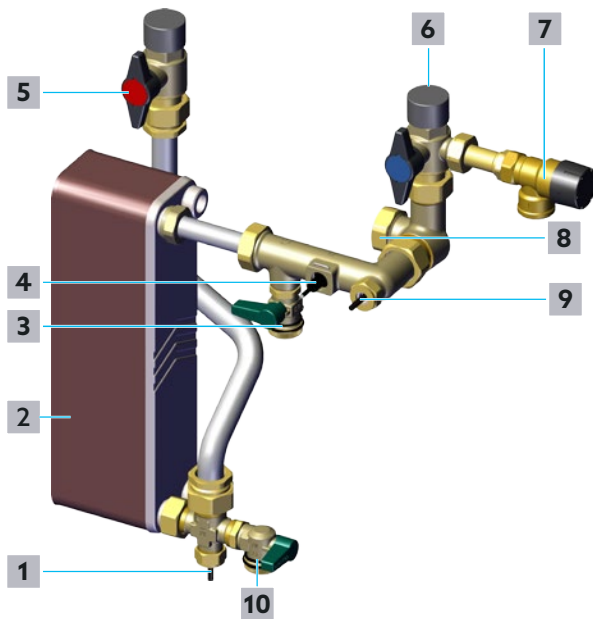

Fig. 19: Filling and venting of the potable water circuit
- 1 Slowly open the shutoff ball valve for potable water (hot) (position 5 in Fig. 19 on page 26 and position 10 in Fig. 2 on page 12).
- 2 Slowly open the shutoff ball valve for potable water (cold) (position 6 in Fig. 19 on page 26 and position 11 in Fig. 2 on page 12).
- ▶ If noises due to trapped air continue to occur in the potable water circuit, slightly open the fill and drain ball valve for potable water (hot) (position 10 in Fig. 19 on page 26 and position 16 in Fig. 2 on page 12) until only water escapes.